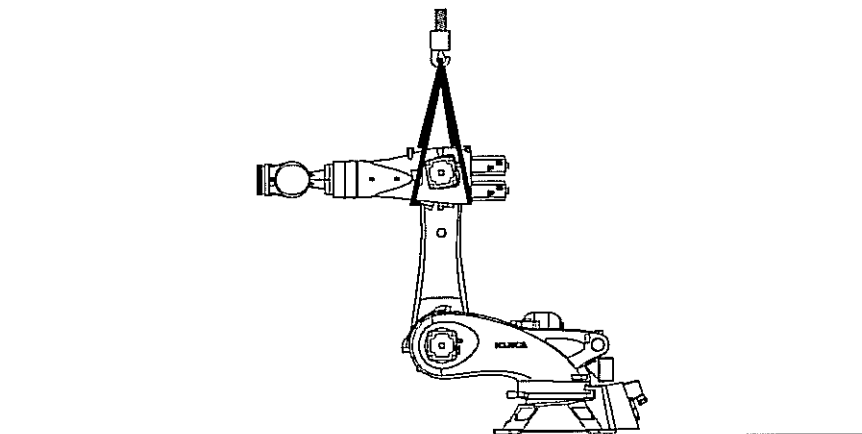

Fig. 11-3: Securing the link arm
1. Move the link arm into a vertical position and secure it using a crane (>>> Fig. 11-3).